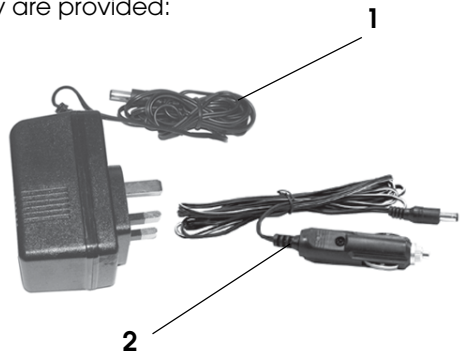

FIG 1
1. Via a mains electricity supply, using the mains adaptor, shown in Fig 1.
2. Via a 12V vehicle supply using the cigarette lighter adapter with cable and plug provided, shown in Fig 1.